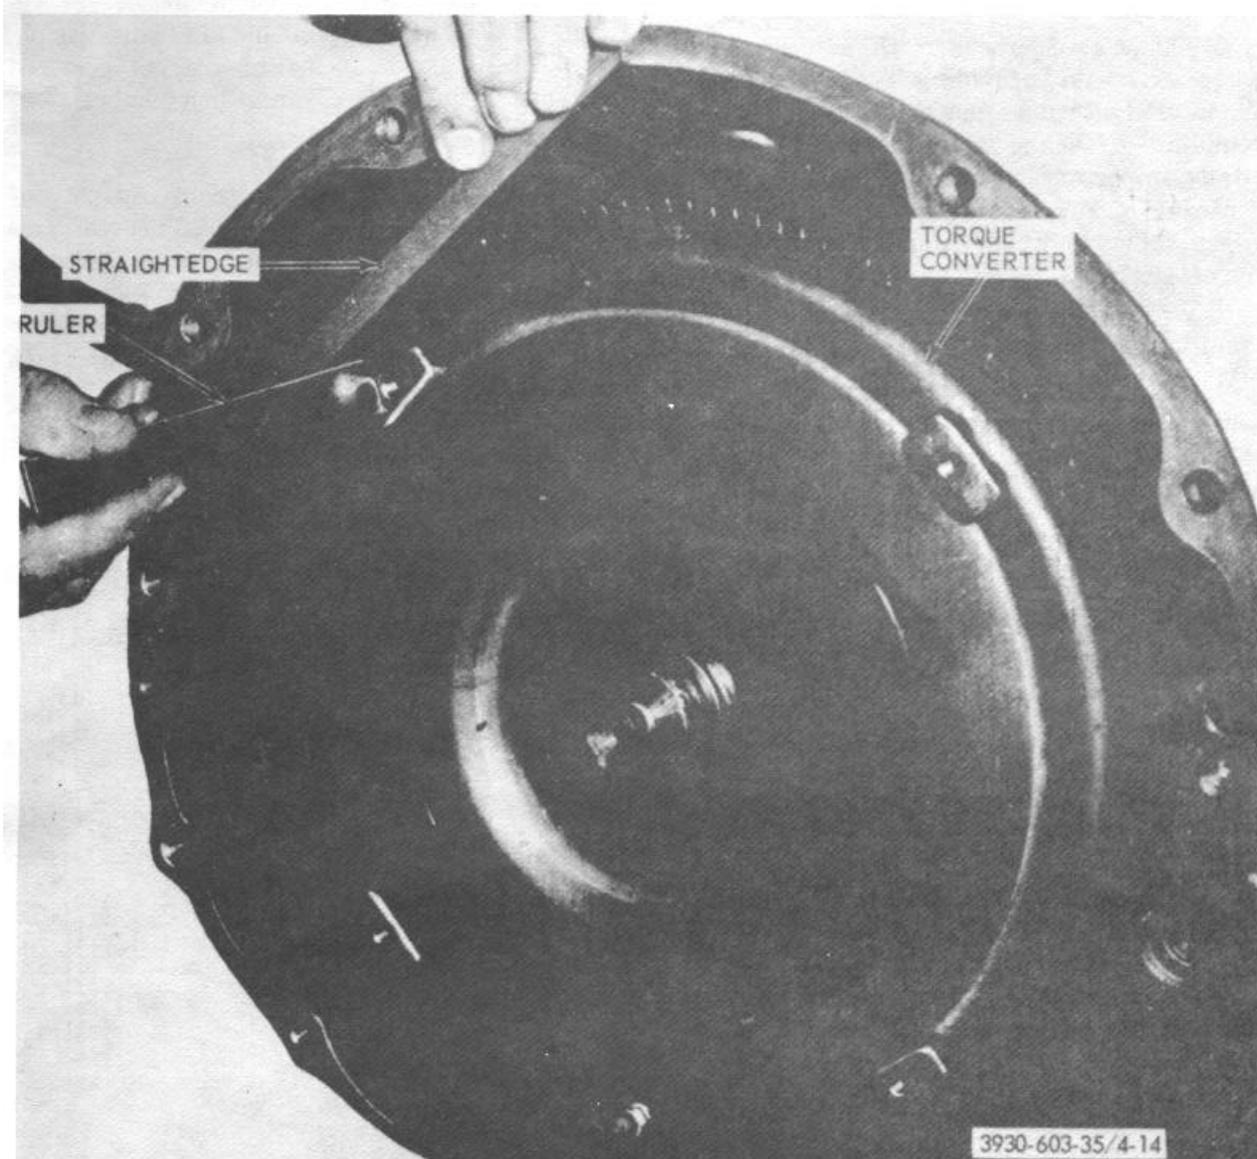

Figure 4-14. Measuring torque converter for full engagement in transmission
- c. Inspect for full engagement by placing a straightedge on face of case as illustrated in figure 4-14. The surface of converter front cover lug should be at least 1/2 inch to rear of straightedge when converter is pushed all way- into transmission.